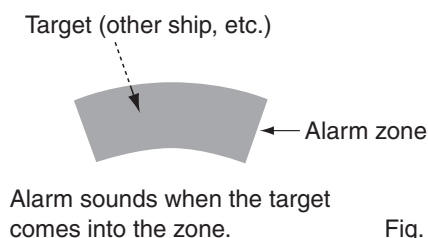

Fig. 3
- ① Push [ MENU ]/[ 菜单 ] one or more times to select the FUNCTION menu.
- ② Push [ ▼ ] one or more times to select “ZONE ALARM.”
- ③ Push [ ◀ ] or [ ▶ ] to select IN or OUT.
- IN : Alarm sounds when the target comes into the zone. (see Fig. 3)